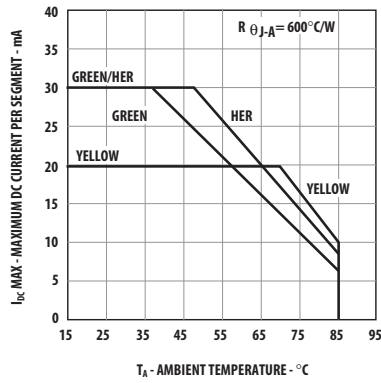

Figure 9. Maximum Allowable DC Current vs. Ambient Temperature. $T_{JMAX} = 100^{\circ}C$.
6. Derate maximum DC current for HER above $T_A = 48^\circ\text{C}$ at 0.58 mA/ $^\circ\text{C}$, Yellow above $T_A = 70^\circ\text{C}$ at 0.66 mA/ $^\circ\text{C}$, and Green above $T_A = 37^\circ\text{C}$ at 0.48 mA/ $^\circ\text{C}$. See Figure 9.